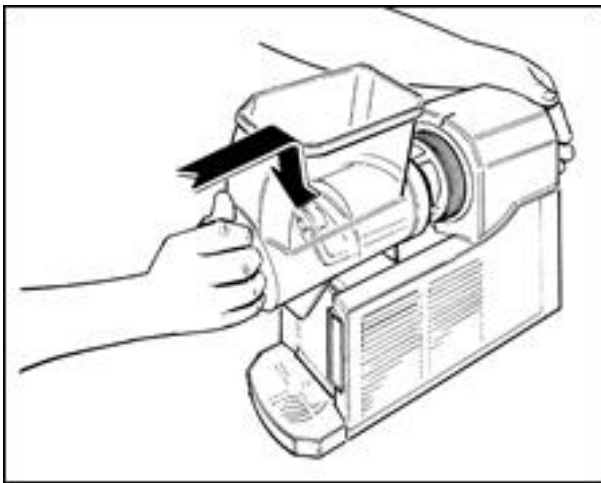

Fig. 46
- Reassemble the bowl by positioning it back into its seat until it gets blocked into it (see Fig. 46).